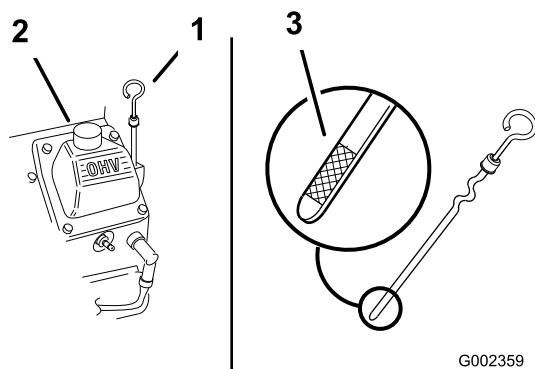

Figure 152
1. Clean the area around the oil-fill cap and dipstick (Figure 152).